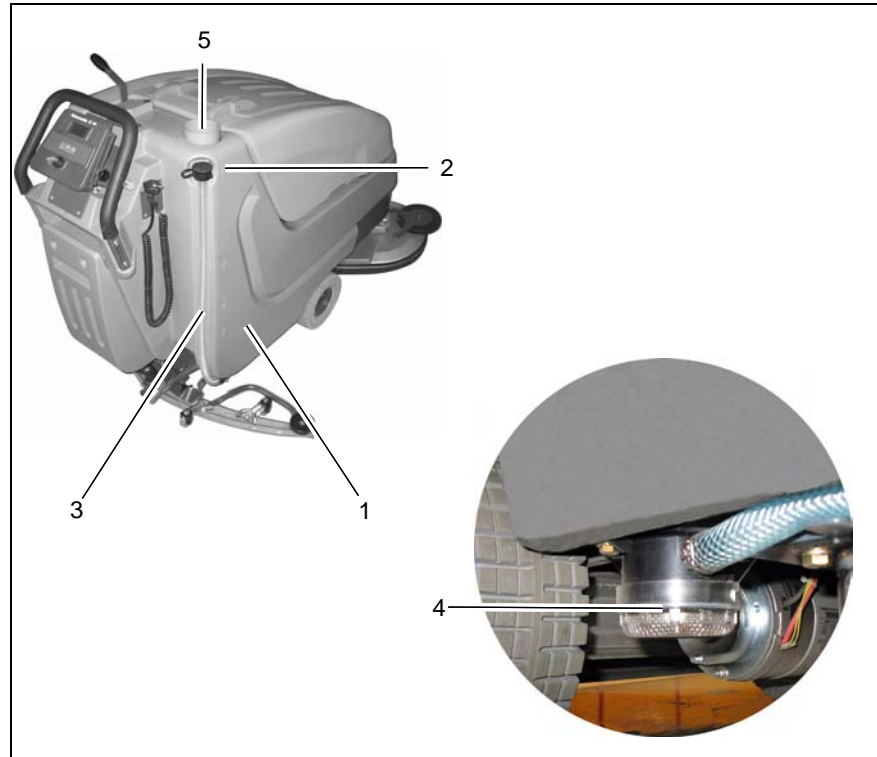

Fig.8
Fill solution tank (Fig. 8/1) before work or as required. Park vehicle on level ground. Open tank lid (Fig. 8/5) and fill tank up to the maximum (1/1 marker) (Fig. 8/2).
Alternatively, filling of the machine via quick coupling (Fig. 8/6) is available. Before doing so, connect the filling hose of the dosage unit and the quick coupling. The floater valve automatically closes after the maximum filling level has been attained.
Park vehicle such that the fill level hose (Fig. 8/3) is located above the drain aperture in the floor. Take fill level hose from holder and remove lid.
Check solution filter (Fig. 8/4) at weekly intervals and clean or replace if required.
1. Empty solution tank (Fig. 8/1) entirely, see paragraph 5.5.2.